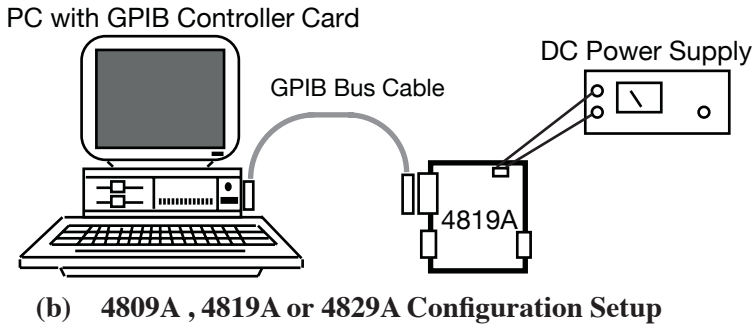

Figure 2-2 Configuration Setups
1. Connect the 4899A to the GPIB controller card in the PC or to a USB-GPIB Controller as shown in Figure 2-2(a). Connect a DC power supply to the unit.
Connect the 4809A, 4819A or 4829A to the GPIB controller card in the PC or to a USB-GPIB Controller as shown in Figure 2-2(b). Connect a DC power supply to the power terminal strip. Set jumper W2 to the P1 position. Set the power supply to 5 ± 0.2 Vdc.
1. Connect the unit to the GPIB controller as shown in Figure 2-2. Run the program and if required use an Abort, REN or a take control type command to have the bus controller assert REN. Then turn the unit on.